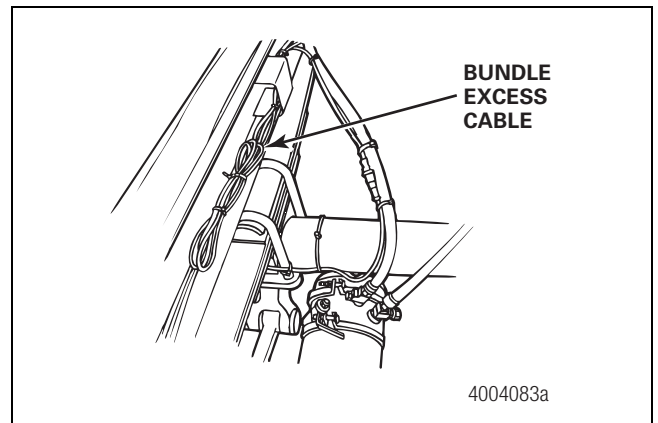

Figure 13
8. Bundle any excess cable into a bow tie. Figure 13.
6. Bundle any excess cable into a bow tie. Figure 13.